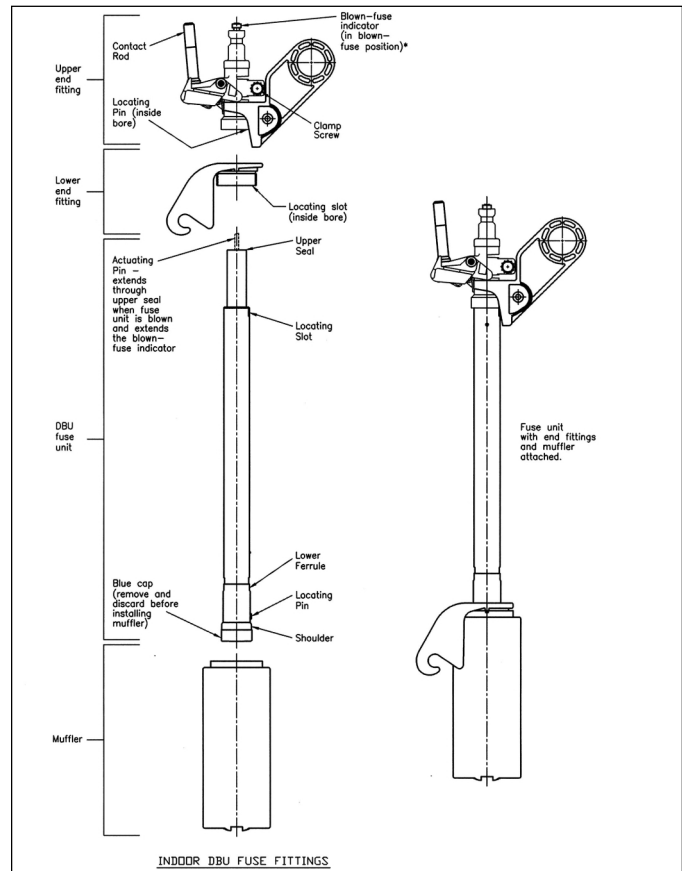

Fig. 1
Attach fuse-unit end fittings (Fig. 1) as follows:
- B. Loosen the upper end fitting clamp screw, and pry the clamp apart slightly using a screwdriver. Slide the upper end fitting off the upper end of the Fuse Unit. Then unscrew and remove the Exhaust Control Device. Slide the lower end fitting off the upper end of the Fuse Unit. (Refer to Figure 1.)